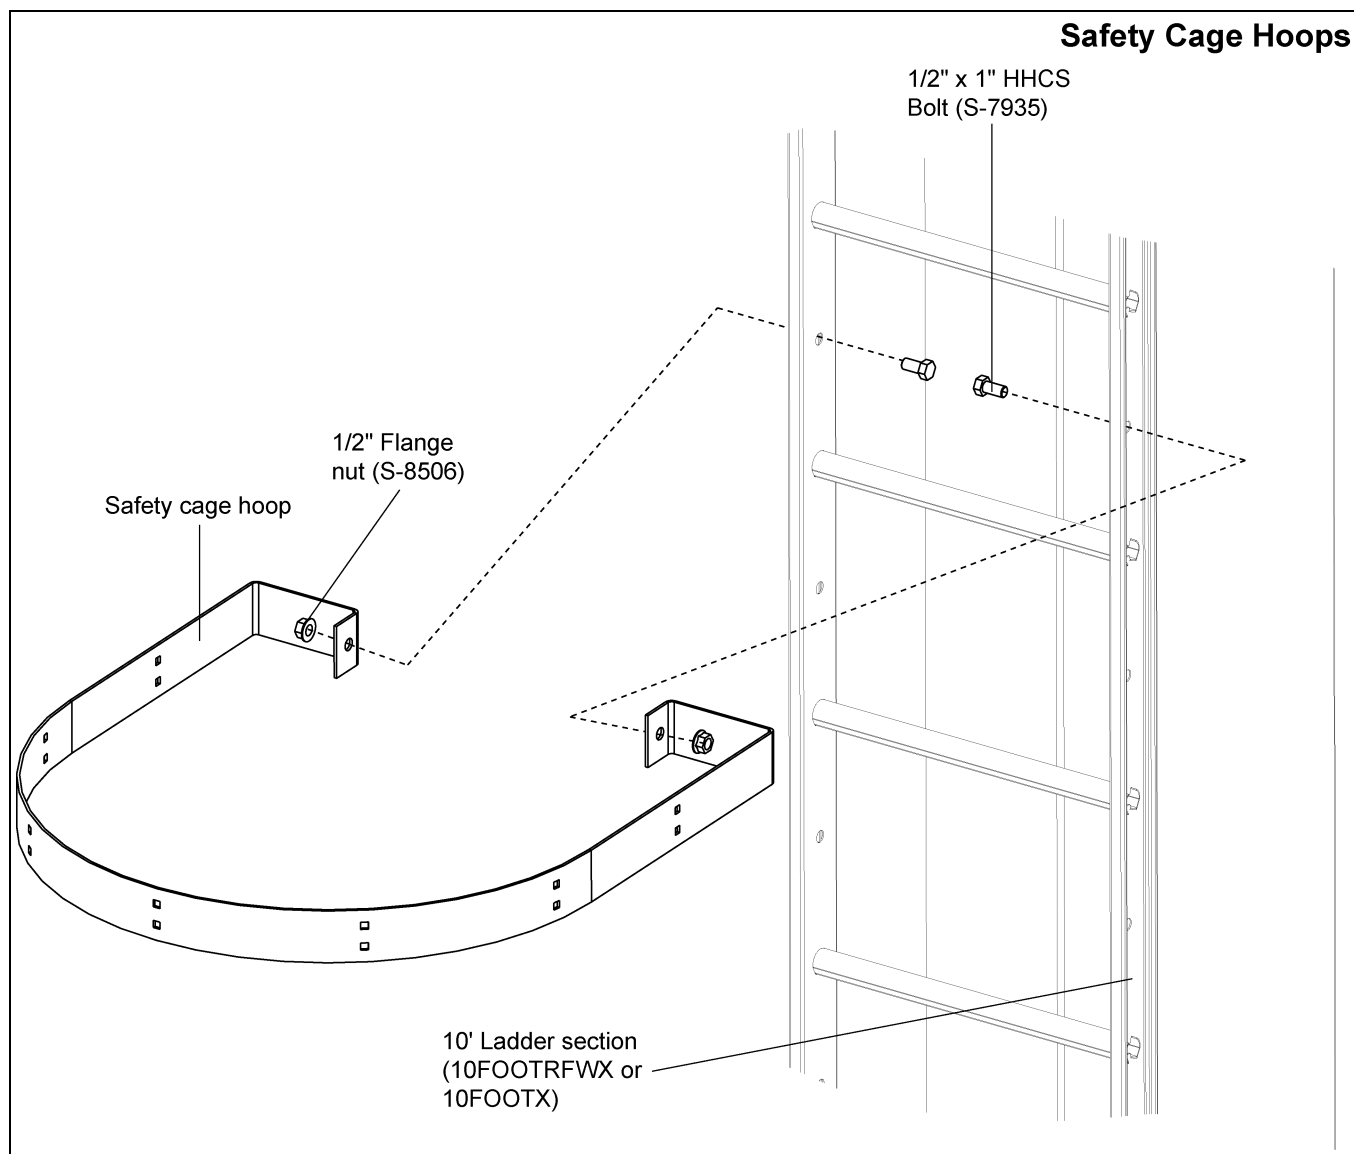

Figure 6X
2. Attach safety cage hoops to ladder using 1/2" x 1" bolts and nuts. *(See Figure 6X.)*